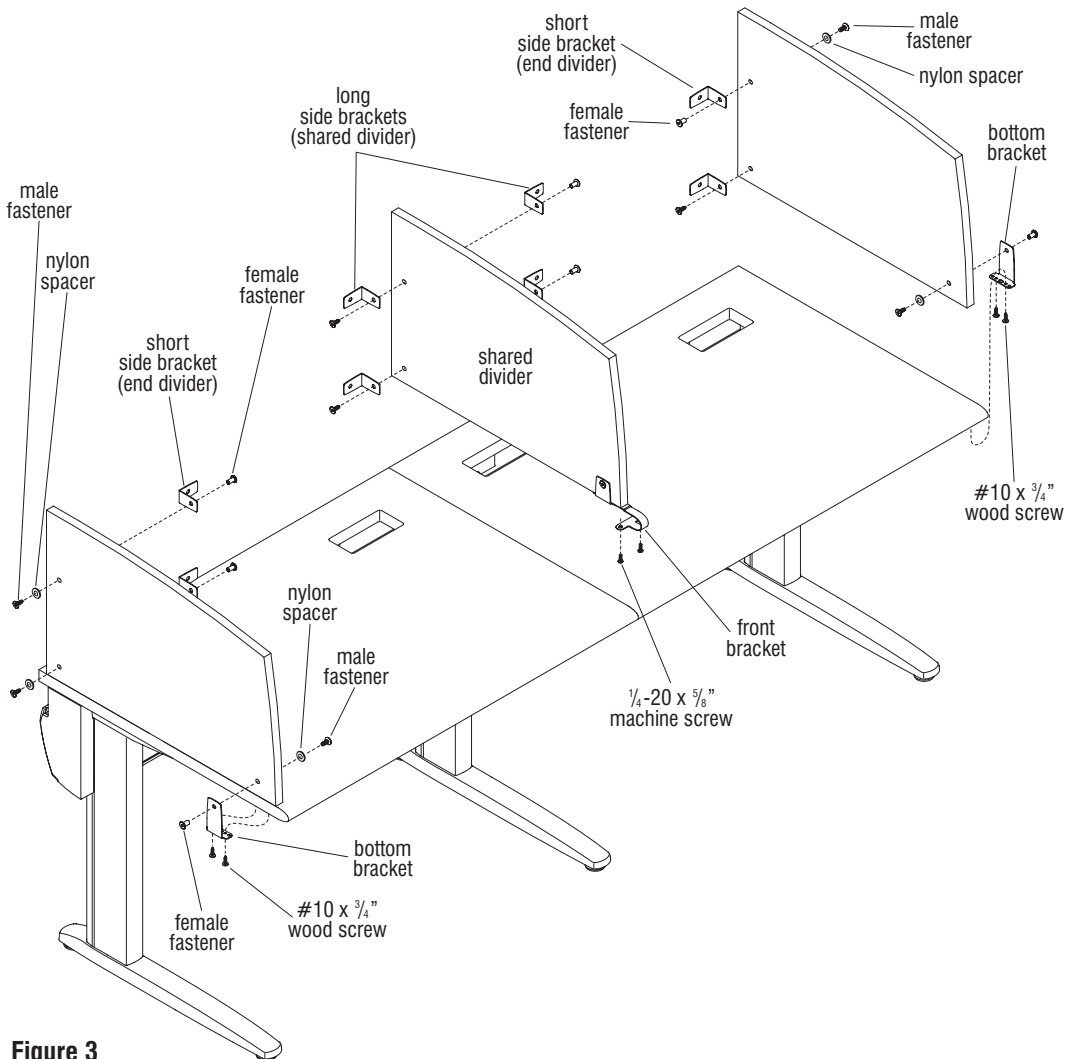
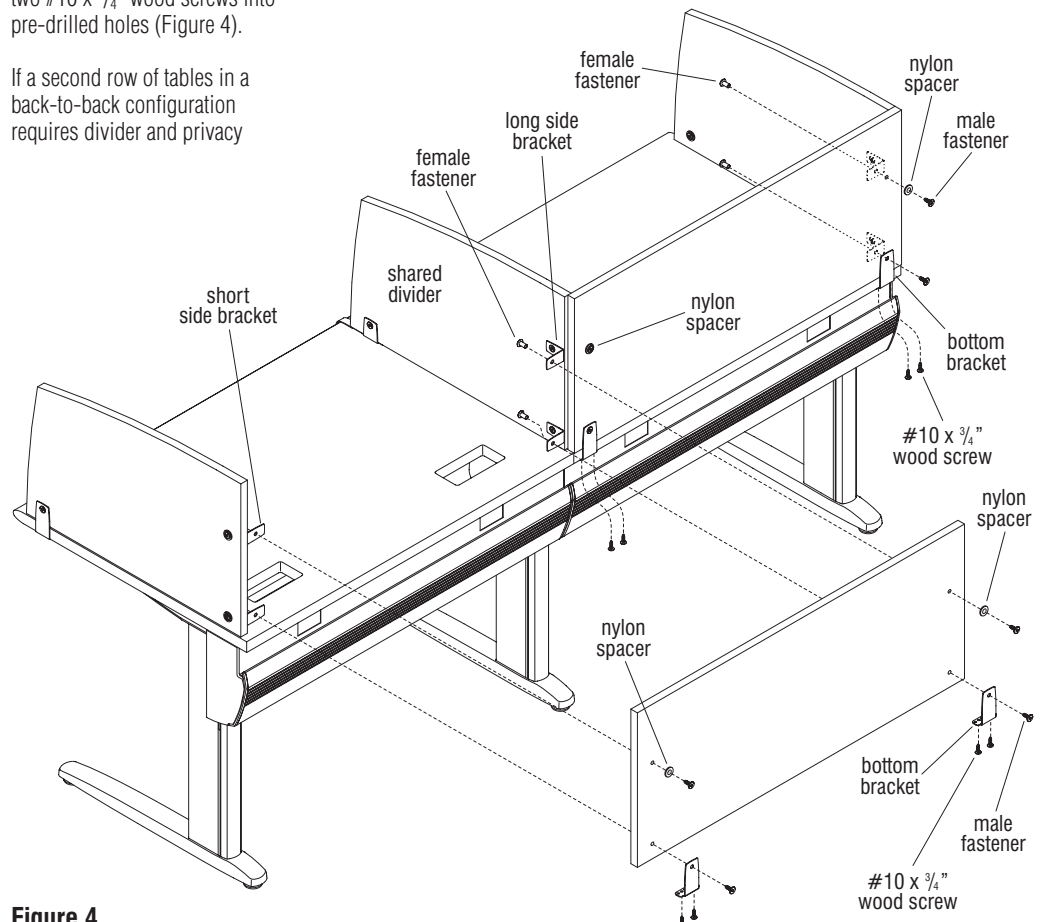
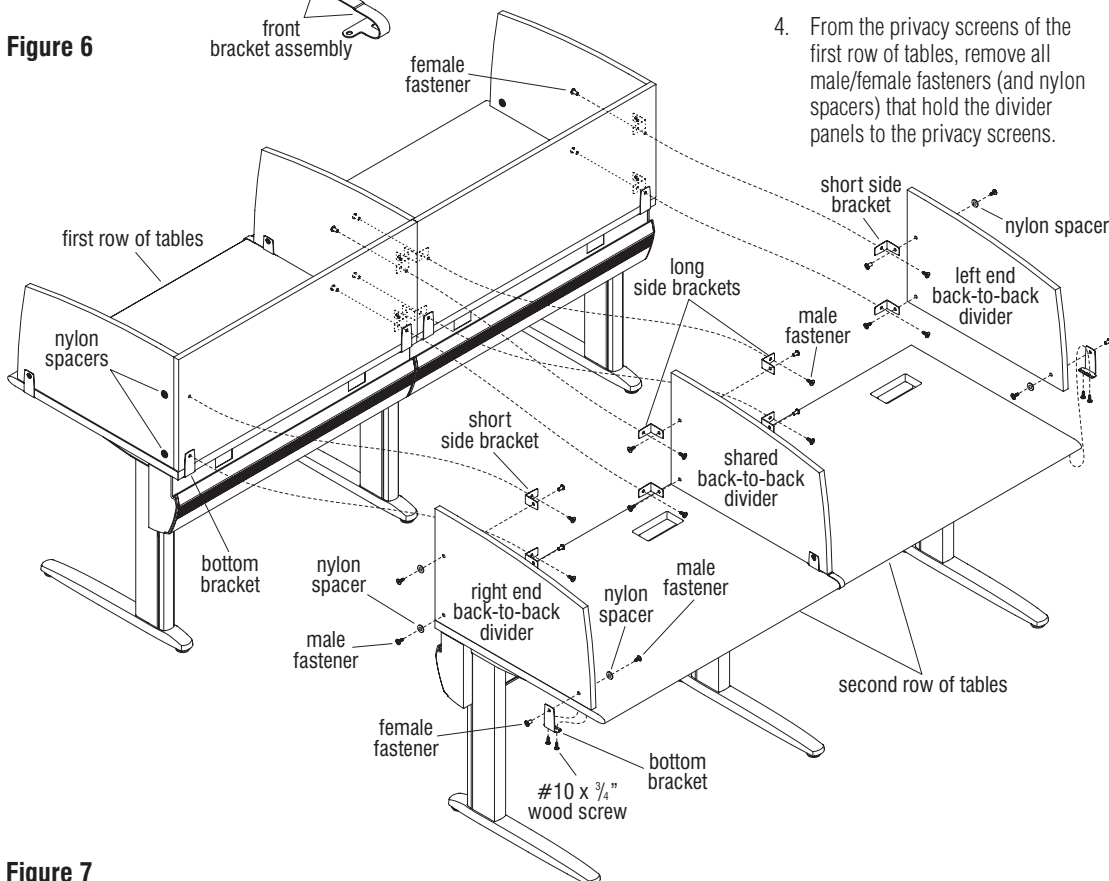

Figure 3
Figure 4
Figure 7
3. Attach the front bracket of the shared divider(s) to the threaded inserts at the underside of the worksurface using two $\frac{1}{4}$ -20 x $\frac{5}{8}$ " machine screws each (Figure 3).
Note: Shared dividers require the use of "long side brackets" to attach dividers to privacy screens. Long side brackets have two mounting holes that each are 1.5" from the corner of the bracket (page 18, Detail A). End dividers require the use of "short side brackets" which has one hole at 1.5" from the corner, and one hole which is 1.063" from the corner (page 18, Detail B). The side of the short side bracket which has the hole at the "shorter" 1.063" distance from the corner is the side of the bracket that must be oriented to attach to the privacy screen (Figure 3).
4. Attach two pair of long side brackets to the rear of the shared divider using male/female fasteners (Figure 3 & page 18, Detail A).
Note: For better alignment when securing dividers and privacy screens with the male/female fasteners, it is recommended that the larger diameter female fastener be used at locations where any type of bracket is being installed. And, a nylon spacer is required at any non-bracket attachment side of a divider or privacy screen where a short side bracket is secured using male/female fasteners (page 17, Figure 3, Figure 4, & page 19, Figure 7).
5. Next determine the location of left-end and right-end dividers. Both divider types are assembled from the same parts. Attach a bottom bracket to the appropriate side at the front, outside of each divider using male/female fasteners as illustrated (page 17, Figure 3).
6. Attach two short side brackets to the left- and right-end dividers at the inside rear locations using male/female fasteners as illustrated (page 17, Figure 3).
7. Align the bottom bracket of the end dividers to the correct mounting holes at the underside of the worksurface. The correct location will allow a privacy screen to be mounted at the back edge of the table. Secure the bottom bracket of the right-end and left-end dividers to the underside of the worksurfaces using the short T-25 driver bit to thread in two #10 x 3/4" wood screws into the pre-drilled holes (page 17, Figure 3).
thread a female fastener through the short side brackets and into the male fastener to hold the divider in place at the bottom brackets (Figure 4).
9. Secure the top of the privacy screen to the short side brackets of the dividers using male/female fasteners and nylon spacers where required. As described above, when securing the privacy screen to the divider, use the larger diameter female part of the male/female fasteners on the inside of the table. Use a male fastener with a nylon spacer at the back, top of the privacy screen. This will aid to properly align the divider screen (Figure 4).
10. Secure each bottom bracket to the underside of the worksurface using two #10 x 3/4" wood screws into pre-drilled holes (Figure 4).
Slide the second row of tables up against the back of the first row of tables until the second row meets the bottom brackets of the first set (Figure 7).
5. On the second row of tables, attach the shared back-to-back divider(s) to the table tops at the front, underside using two $\frac{1}{4}$ -20 x $\frac{5}{8}$ " machine screws into the threaded inserts under the tables (Figure 7).
6. Next, determine the location of left- and right-end dividers. Both divider types are assembled from the same parts. Attach a bottom bracket to the appropriate side at the front, outside of each divider using male/female fasteners and nylon spacers as illustrated (Figure 7).
7. Position the end dividers onto the tops so that the rear edge of the divider meets the back-to-back privacy screen. At the appropriate mounting location, secure the bottom bracket of the right- and left-end back-to-back dividers to the underside of the worksurfaces using the short T-25 driver bit to thread in two $\#10$ x $\frac{3}{4}$ " wood screws (Figure 7).
8. On the second row of tables, attach all required short and long side brackets to the rear of the shared and end back-to-back dividers using male/female fasteners and nylon spacers as required (Figure 7).
9. Secure the dividers of the second table row to the back-to-back privacy screens of the first set of tables with male/female fasteners as illustrated. When securing the privacy screen to the divider, use the larger diameter female part of the male/female fasteners on the inside of the table. This will aid to properly align the divider screen (Figure 7).